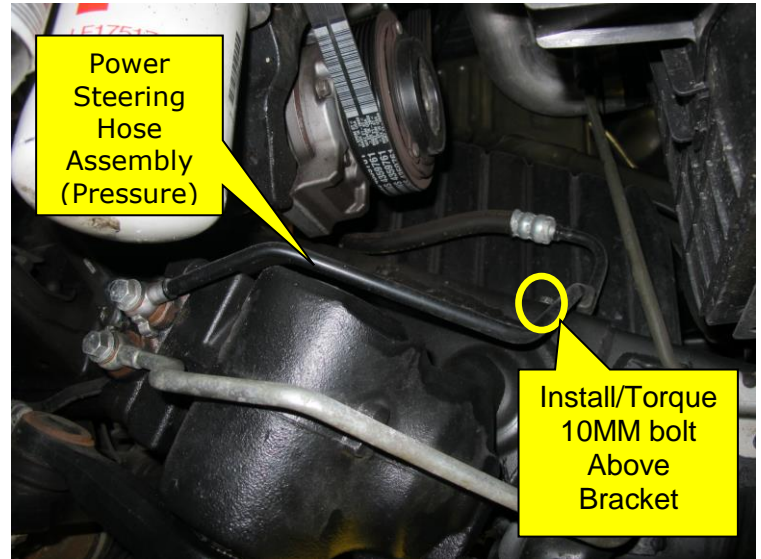

Figure 8
7. Reinstall Power Steering Hose Assembly (Pressure) bracket bolt (Figure 8).